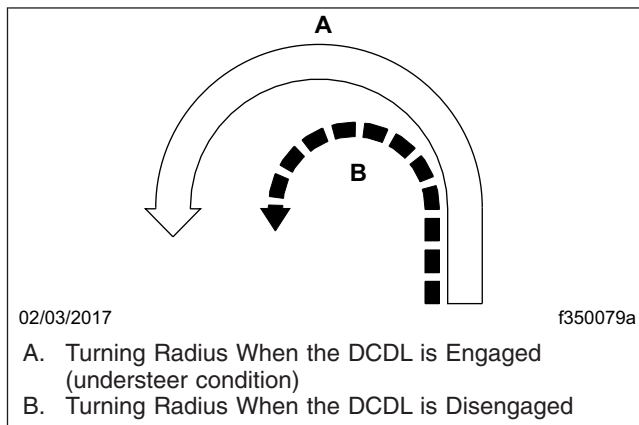

Fig. 17.4, Turning Radii
3. Drive cautiously and do not exceed 25 mph (40 km/h). When the differential is fully locked, the turning radius will increase because the vehicle understeers. See Fig. 17.4.